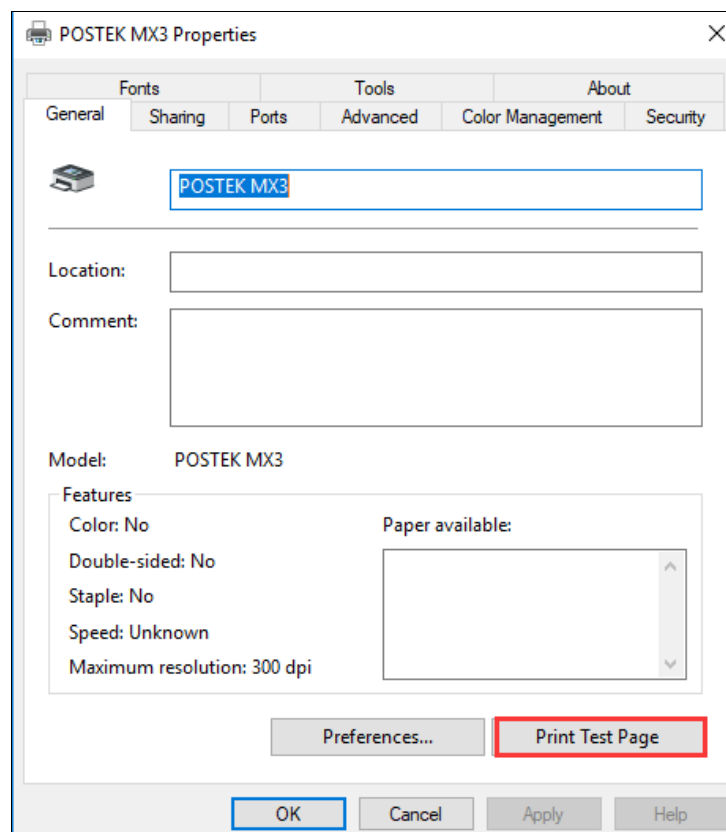

Figure 2-48 Print Test Page
11. Print a test page to see whether the printer is connected properly. As shown in Figure 2-48.